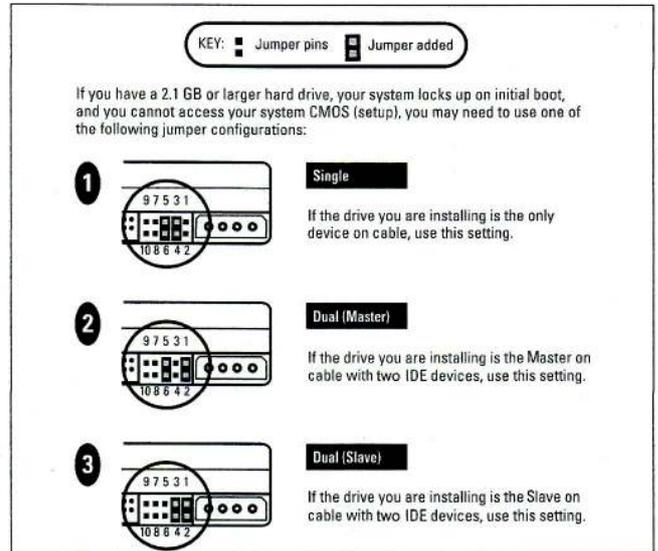

Figure 6. Alternate Jumper Settings for Hard Drives
CAUTION: Use the jumper settings in Figure 6 only if you encounter the specific BIOS limitation (system locks up) described in this section. These jumper settings cause the drive to report 4092 cylinders (2.1 GB) rather than the actual drive capacity. If you use these jumper settings, you MUST use Data Lifeguard Tools™ to partition and format your hard drive to access the full capacity of your new drive.
- Rejumper the hard drive as shown in Figure 6 and install Data Lifeguard Tools which MUST be used with these alternate jumper settings. If you move this hard drive to another system, you must replace the jumper in the standard position.